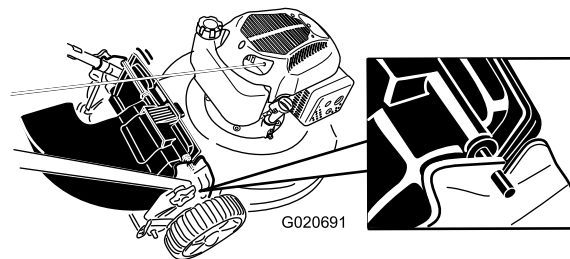

Figure 22
4. Insert the rod on the rear-discharge deflector into the notches on the machine (Figure 22).